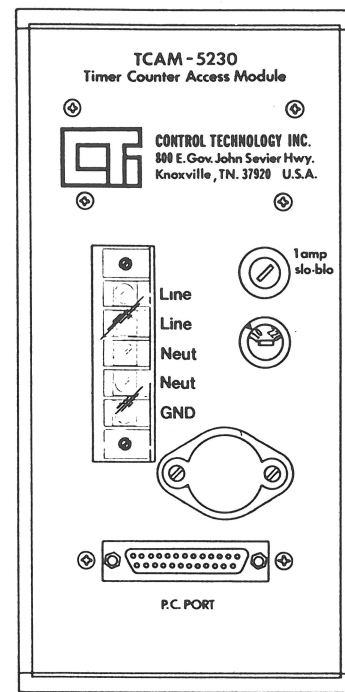

figure 5
1.2 REAR PANEL (figure 5)
TERMINAL — Supply power is connected to the unit as is labeled on the back of the unit. See figure 5.
Apply the supply voltage to the proper terminals points. See figure 5 for the terminal connections. The TCAM-5230 will respond with **HELLO** in the location display area. After approximately 10 seconds the display area will go blank and the TMR/UDC LED will light. The TCAM-5230 is then ready to use.